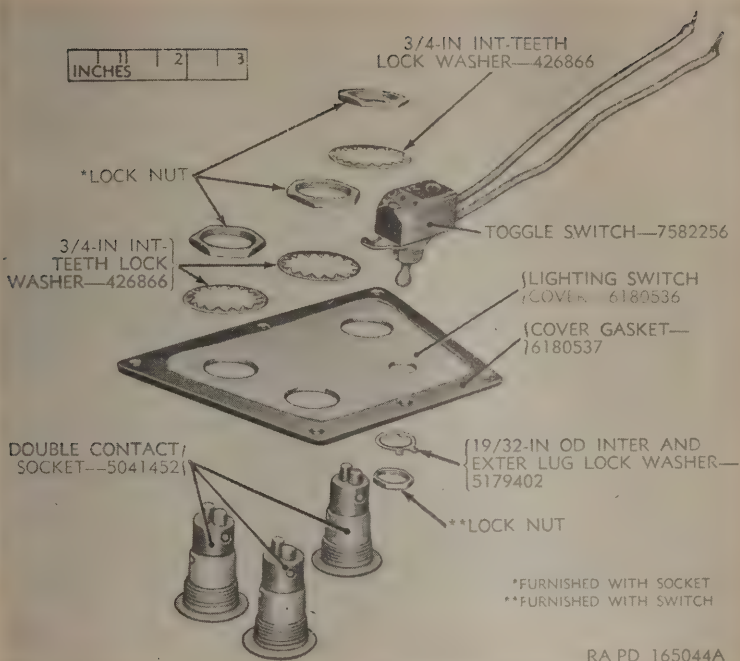

Figure 70. Telescope mounts M52C and M52D—lighting switch cover assembly—exploded view.
## **187. Disassembly of the Lighting Switch Cover Assembly** (fig. 70)
a. If the cover gasket (fig. 70) has been removed, replace the gasket and cement to the cover with the proper oil resistant cement (ORD 3 SNL K-1). When the gasket has properly dried, continue with the assembly.
b. Place a serviceable toggle switch (fig. 70) in the smallest of the four holes in the cover. The switch handle must be on the side opposite the gasket. Place a  $1\frac{9}{32}$ -inch OD internal and external lug lockwasher (fig. 70) on the pole end of the switch. Screw the locknut (fig. 70) on the toggle switch and tighten securely.
c. Insert the three double contact sockets (fig. 70) through the front of the cover. Place a  $\frac{3}{4}$ -inch internal-teeth lockwasher (fig. 70) on each of the sockets and screw on the locknuts. Tighten the locknuts securely.